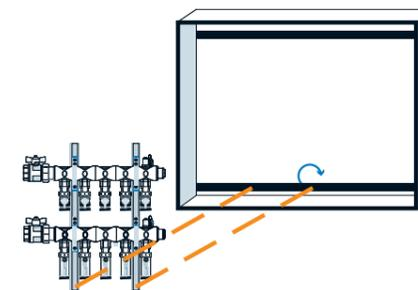

Figure 5: Install manifold onto bottom rail
3. To install the manifold assembly onto the bottom rail of the cabinet, tilt the top of the assembly forward and the bottom backwards so the bottom of the vertical supports slide behind the lip of the bottom rail (see **Figure 5**).